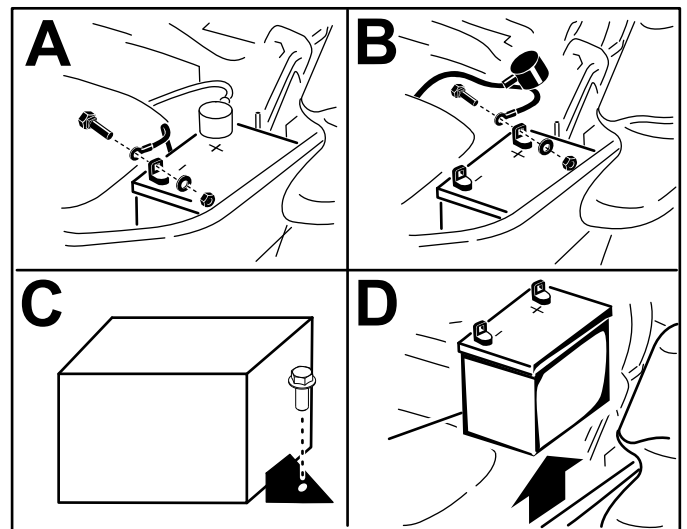

Figure 62
5. Remove the battery as shown in Figure 62.